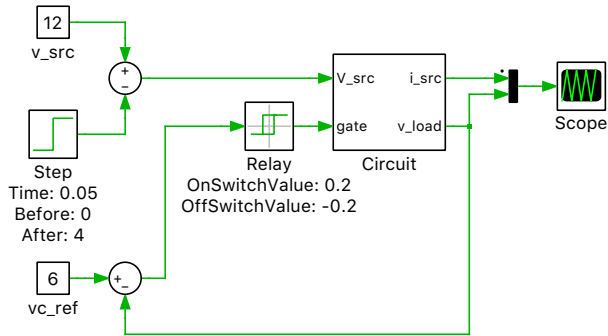

Figure 11: Buck converter with hysteresis control
- 2 Build the controller shown in Fig. 11.